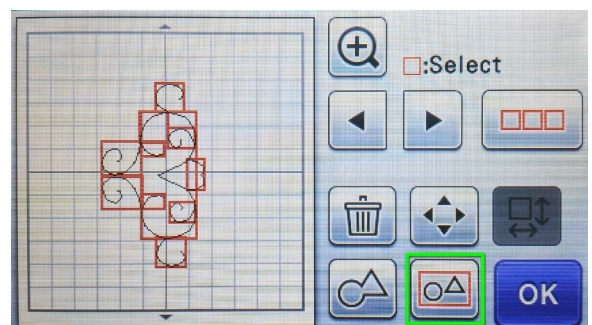

Figure 11
N. Unify the elements. Tap the **Unify** button. (Fig. 11) Tap **OK** when asked it's **OK** to unify the patterns.